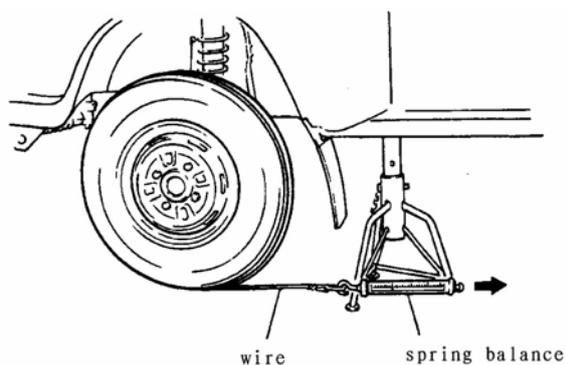

FIG.16-34
After installing wheel, rotate wheel with the force of 3.3kgf or less. The wheel should rotate smoothly. (FIG.16-34)
2. The figure shown in FIG.16-34 is the value pulling tyre out rim.